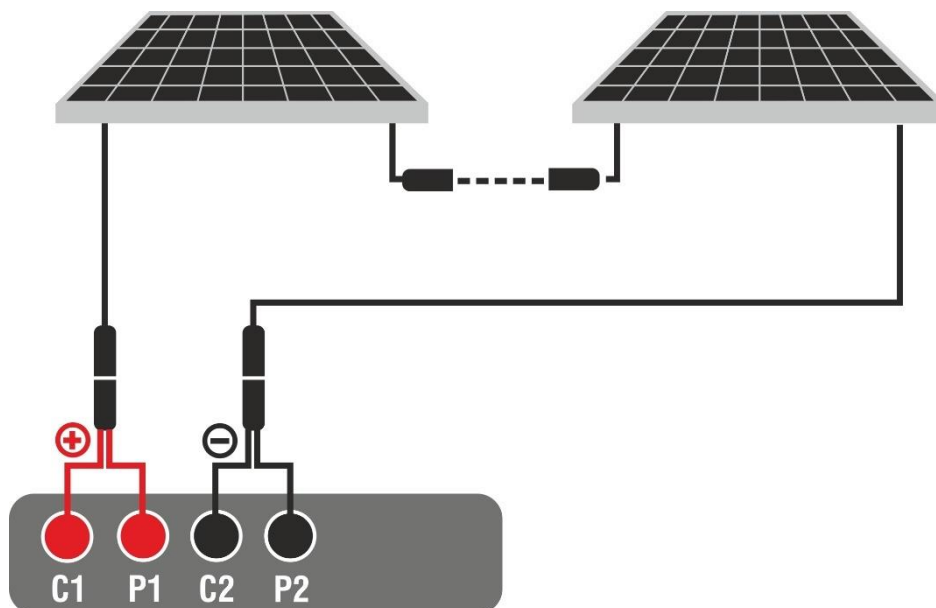

Fig. 56: Connection for IVCK tests without remote unit
3. Connect the instrument to the module/string being tested as shown in Fig. 56. In particular, connect the Negative pole of the module/string to the **P2, C2** terminals and the Positive pole from the module/string to the **P1, C1** terminals